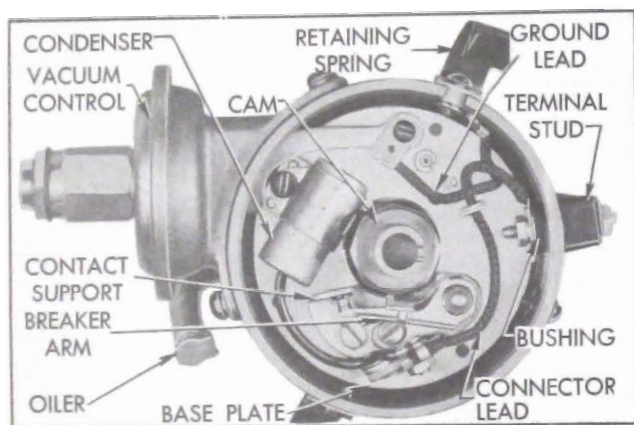

Figure 10-51—Distributor Parts
4. Remove rotor and breaker plate ground lead, then remove the vacuum control and gasket. See figure 10-51.
5. Install terminal stud and bushing, and attach connector lead to stud. See figure 10-51.
10. If indicator reading is not within specified limits, slightly loosen contact support lock screw and turn eccentric screw to open or close points as required, then tighten support lock screw. See figure 10-51. NOTE: *Since point opening decreases as rubbing block wears, always set new points as close to high limit as possible.*